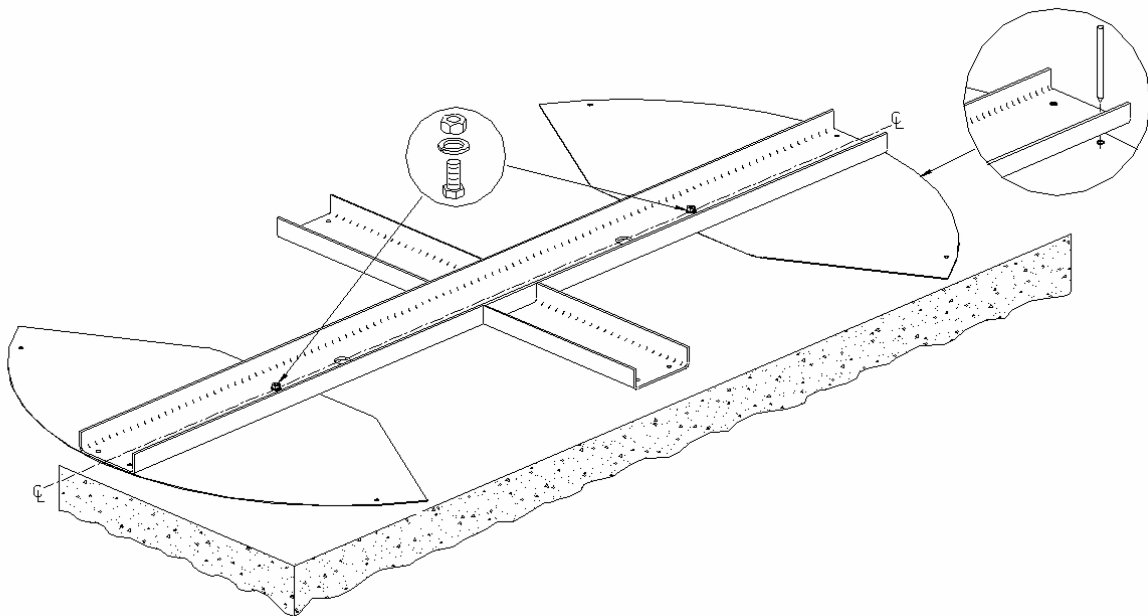

Figure 2
3. Attach ceiling plates (right and left side) to the channel with one screw, hex head $\frac{3}{8}$ " - 16 X 1"; washer, lock $\frac{3}{8}$ "; nut, hex head $\frac{3}{8}$ " - 16. See Figure 2.
4. Next place this assembly (ceiling plate and channel) on the floor to mark anchor stud holes. Align the two 1/2" holes located at the shield assembly end of the ceiling plate with the proper two holes in the channel. Keep holes aligned and move the assembly into position on the previously marked center line. To assure good alignment, tighten the 3/8" nut and screw while keeping a 1/2" center punch in one of the two holes for both the ceiling plate, and channel at the shield assembly end. See Figure 2. Center of channel is to fall on the center line reference established in #2 above.